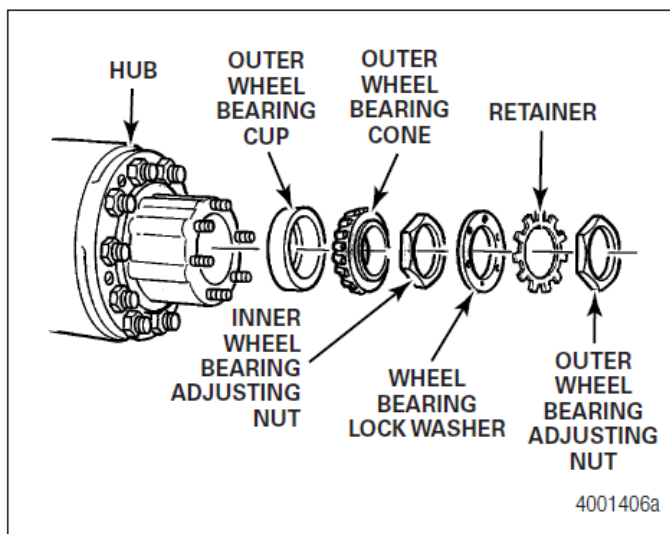

Figure 5.15
2. Install the inner wheel bearing adjusting nut onto the spindle and against the outer bearing so that the pin in the inner bearing adjusting nut is pointing away from the bearing. Figure 5.15.